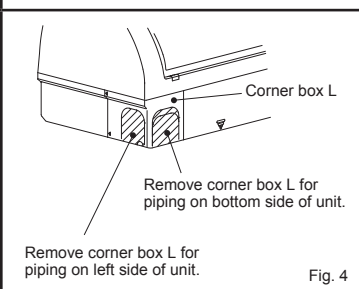

Fig. 4
- According to the piping direction, remove the shaded part of the corner box L (Fig. 4) or corner box R (Fig. 5). Reinstall electrical cover, corner box and front panel.
- Insert the drain hose fully into the drain pan at the back right of the indoor unit. (Fig. 4)
- Insert the drain hose into wall hole sleeve (C), and attach the upper part of indoor unit onto the installation plate (1). Then, shift the indoor unit completely to the left to make placing the piping in the back of the unit easier.
- 4) Flaring work (Fig. 4, 5). Firmly hold copper pipe in the dimension shown in the table. Select A inch (mm) from the table according to the tool you use.